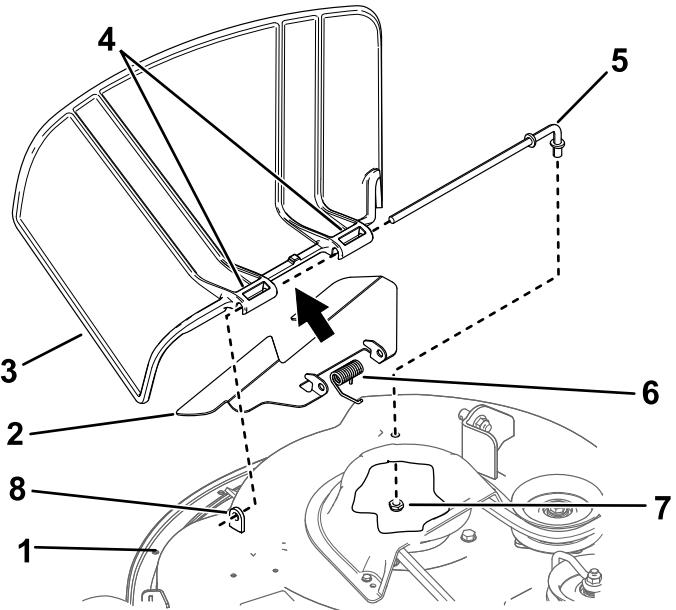

Figure 73
1. Remove the nut (3/8 inch) from the rod under the mower (Figure 73).
2. Slide the rod out of the short stand-off, spring, and grass deflector (Figure 73).
4. Install the new grass deflector (Figure 73).
7. Slide the rod through the second grass-deflector pivot (Figure 73).
9. Secure the rear end of the rod into the mower with a nut (3/8 inch) as shown in Figure 73.